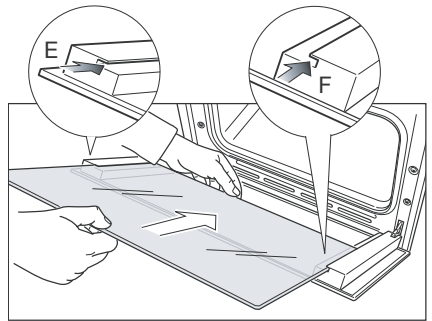
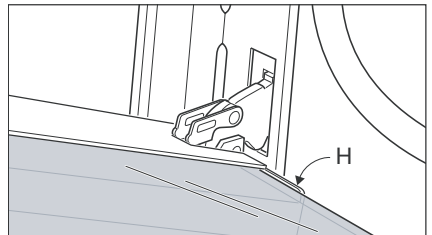

Fig.56b
Fig.56c
- Insert the pane in the left "E" and right "F" slide guides (Fig. 56b), and gently slide it to the retainers "H" (Fig. 56c).